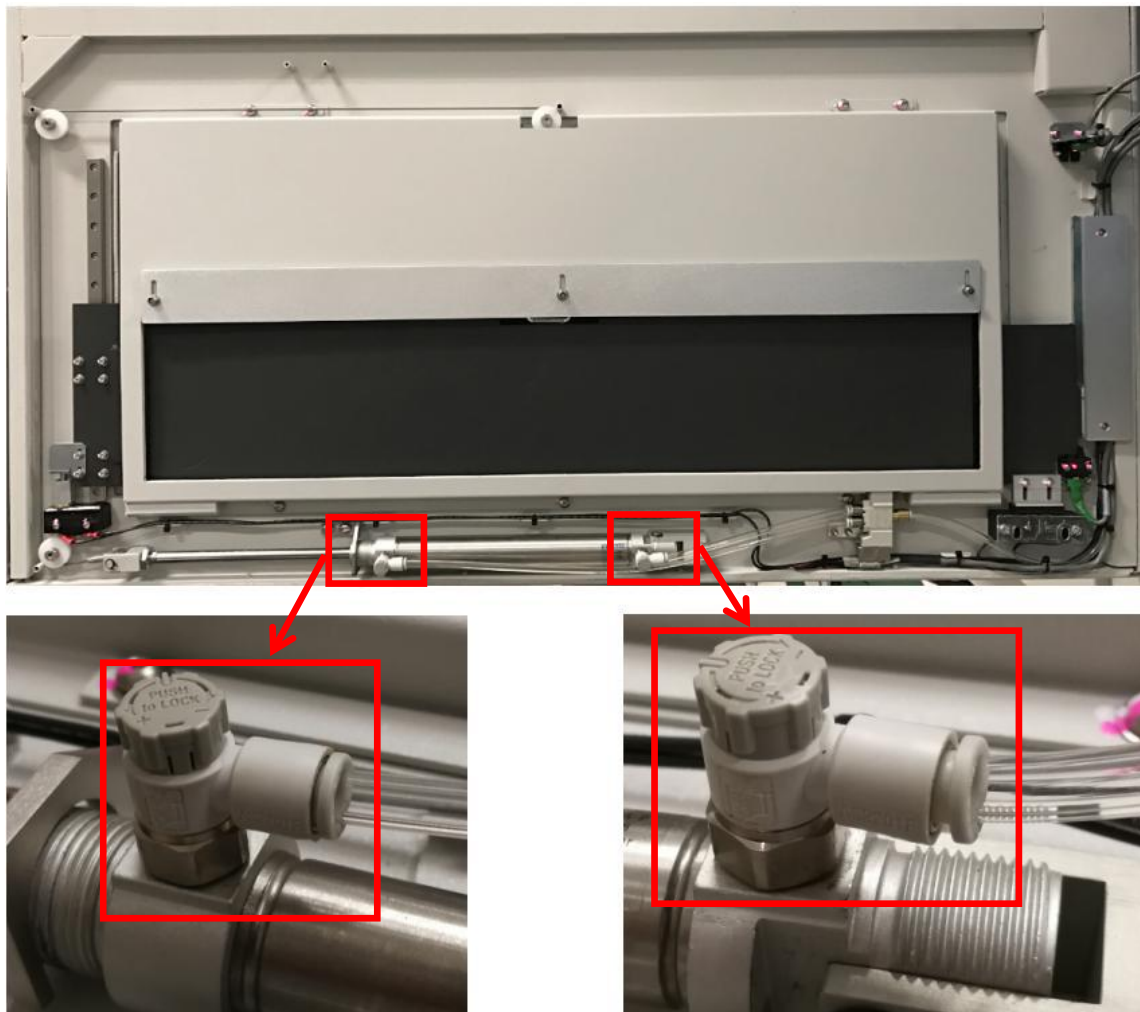

Figure 14
16. Assemble 2 x New Speed Controller (2820-0117) at outer barrier cylinder as Figure 14.